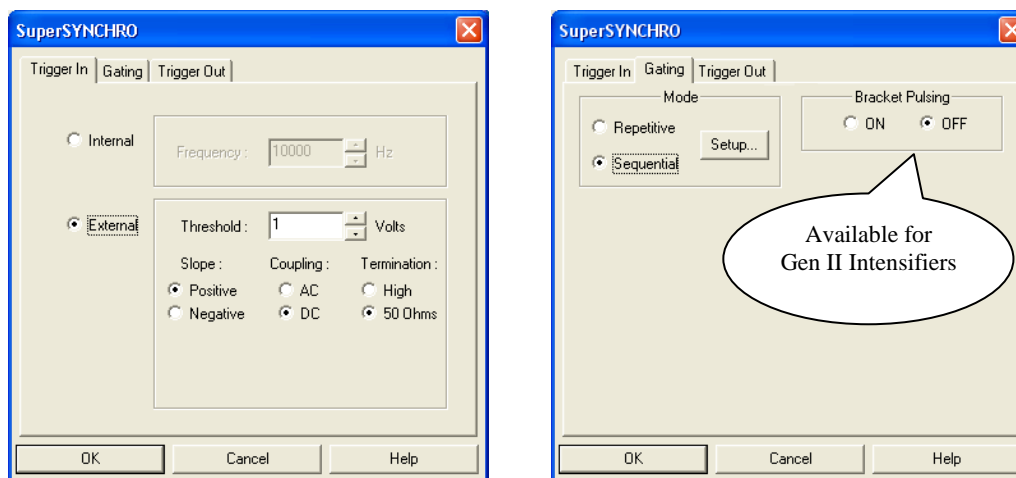
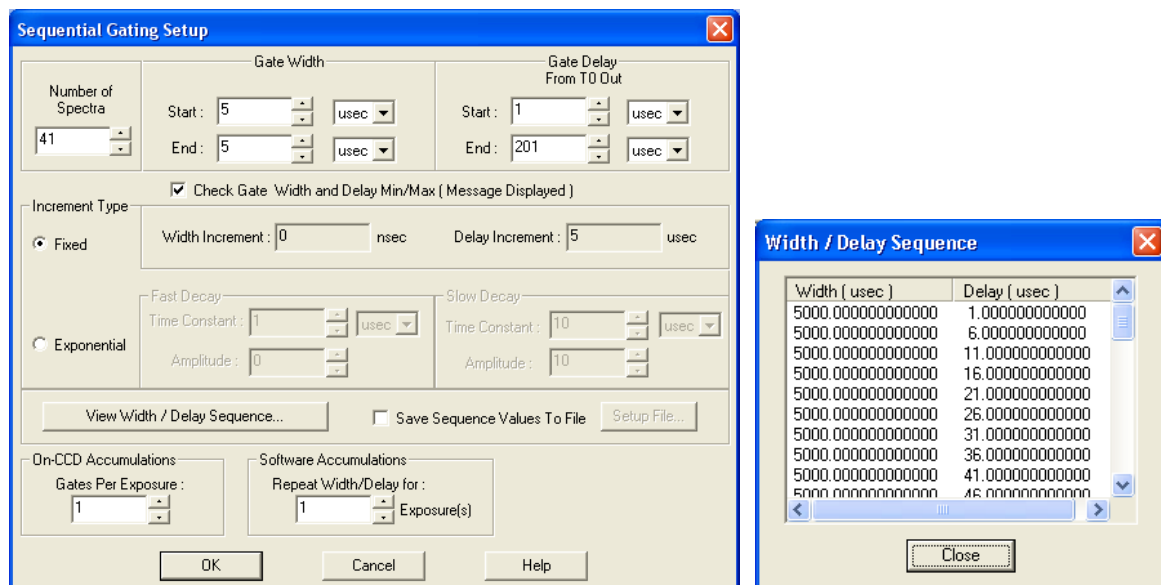
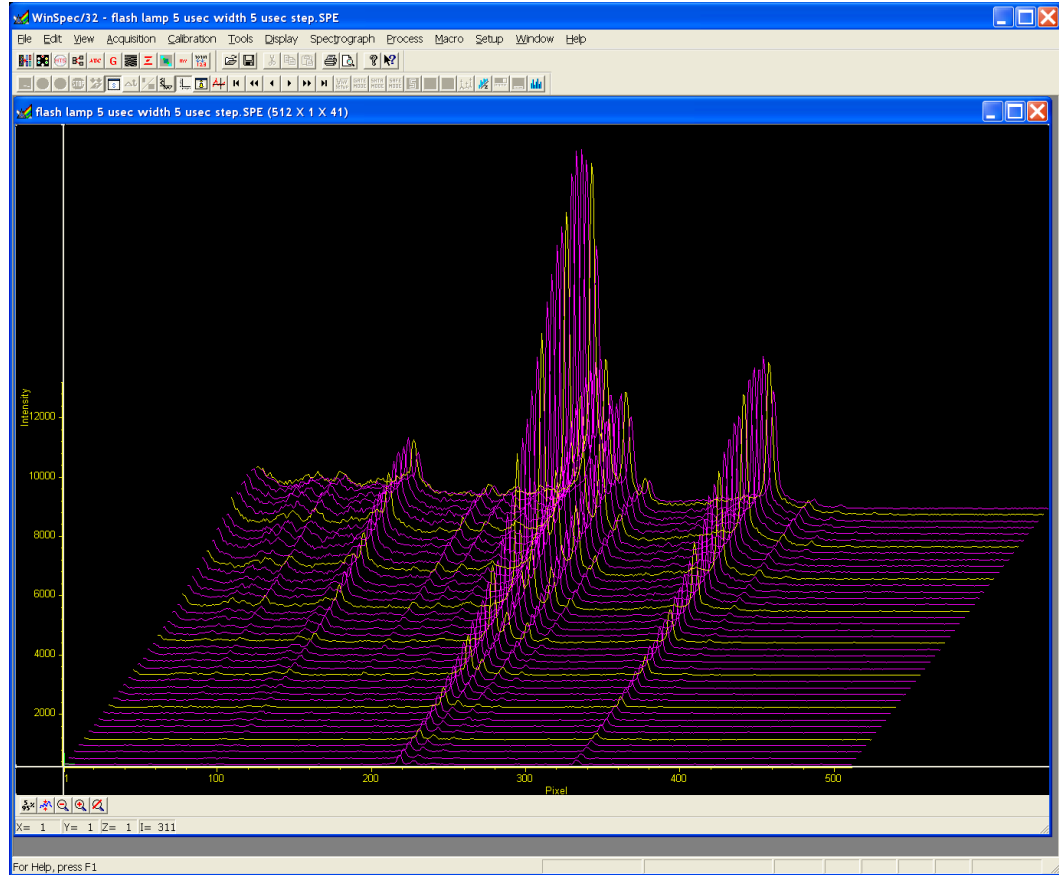

Figure 44. SuperSYNCHRO: Trigger In and Gating tabs
Figure 45. Sequential Gating Setup and Width/Delay Sequence dialogs
Figure 48. Experiment Results in 3-D
- a. After selecting the SuperSYNCHRO as the active pulser, click on “Setup Pulser...”. Define the external trigger on the **Trigger In** tab. See Figure 44.
- b. On the **Gating** tab, select **Sequential** as the Active Mode and then click on “Setup...”. If you have a Gen II intensifier, set Bracket Pulsing to OFF for this experiment. See Figure 44.
- c. Click on “Setup...” and define the pulse sequence on the Sequential Gating Setup dialog. See Figure 45.
- b. On the **Main** tab, enter the **Gain** value and switch to **Gate Mode**. The number of spectra will be automatically set depending on the number entered on the Sequential Gating Setup dialog (Figure 45).
12. Figure 48 displays the 3-D graph for a “Sequential-Repetitive” experiment with Fixed Width and Variable Delay (as set in Figure 44 and Figure 45).